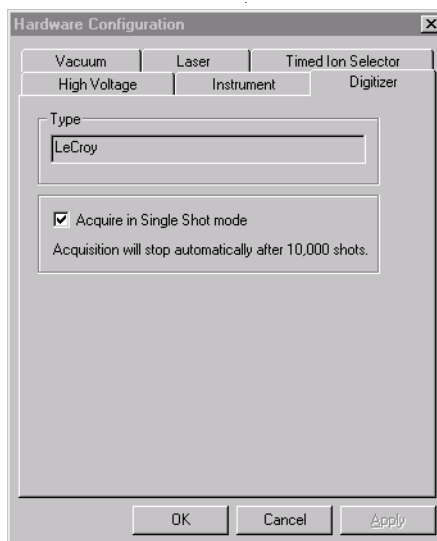

Figure 2-20 Digitizer Configuration
2. Click the **Digitizer** tab to display the Digitizer page (Figure 2-20).